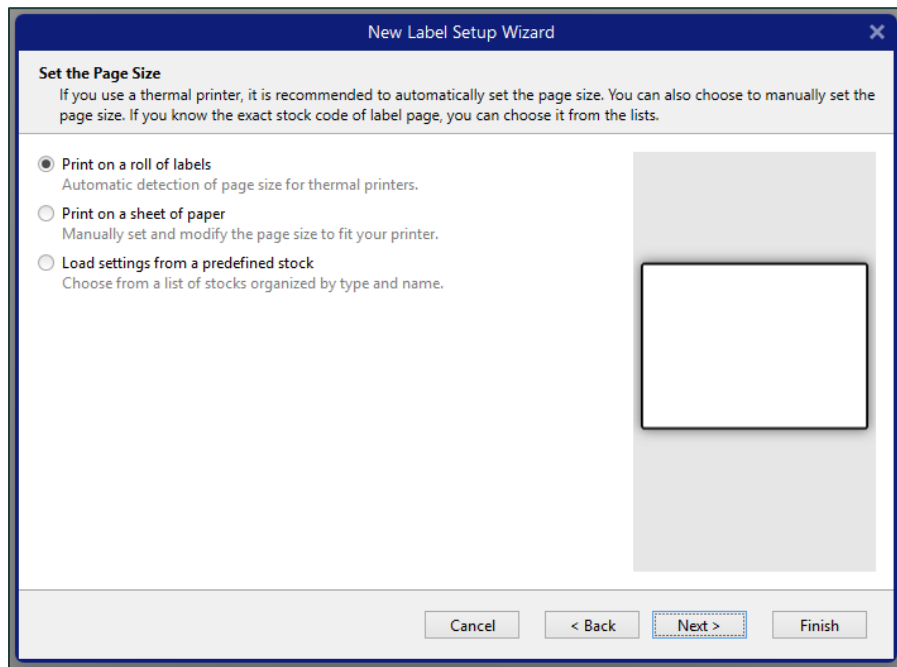

Figure 10: New Label Set Up with Print on a roll of labels selected
4. After clicking Next, set the Page Size – **see figure 10.**